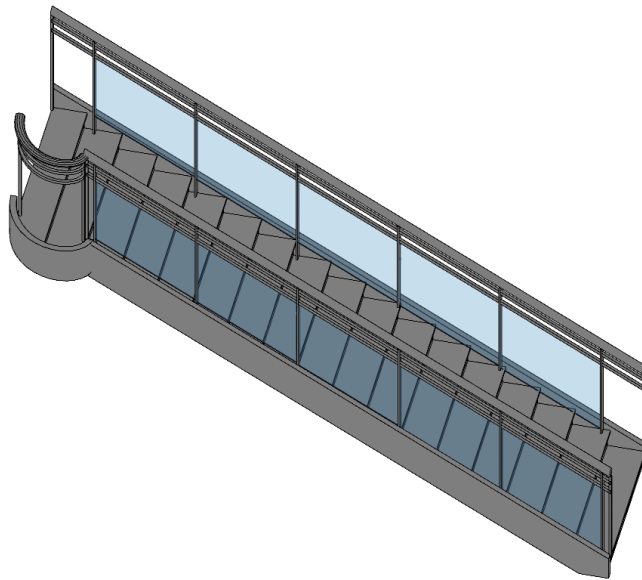

FIGURE 4.14 Completed sketch-based stair
11. Select the two railings that were automatically created, and swap the type in the Type Selector to Glass Panel - Bottom Fill. The completed stair is shown in Figure 4.14.